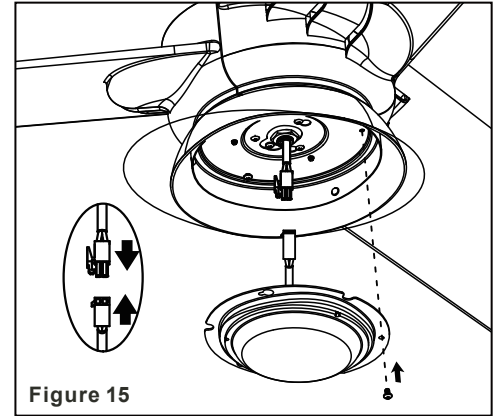

Figure 15
Step 1. Hold the light kit close to the switch housing and securely attach the 2-pin connectors. **Step 2.** Tuck the connections neatly into the light kit. Align three round holes on the light kit and switch housing. Securely tighten with 3 screws (Fig.15)